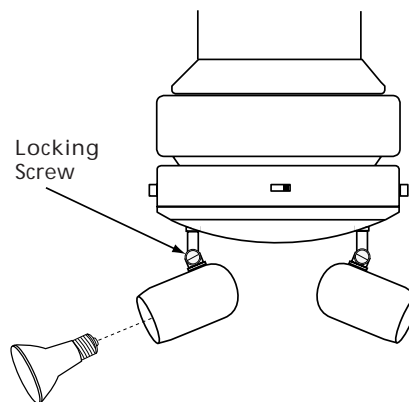

Figure 7 - Installing Light Bulbs
1. Loosen the locking screws as shown in Figure 7.